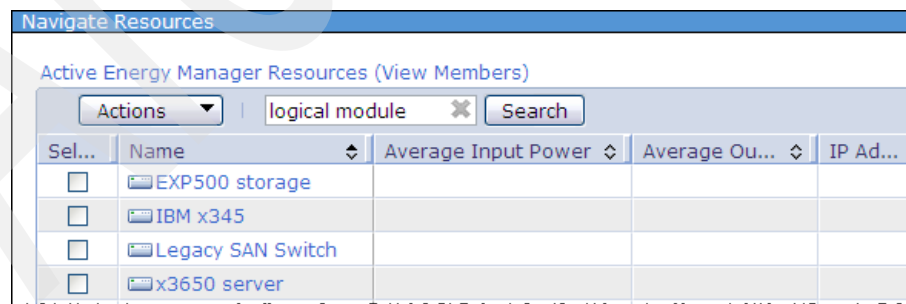

Figure 8-27 Individual systems as a logical module connected to outlet groups
1. In the Active Energy Manager Resources Group on the Active Energy Manager home page, enter `logical module`, and then click **Search** to find individual systems that are connected to outlet groups (Figure 8-27).
**Note:** Because a logical module in Active Energy Manager uses the Average Input Power (externally metered) field to display power-trend data, its power usage information does not display as a default field setting, as shown in Figure 8-27.